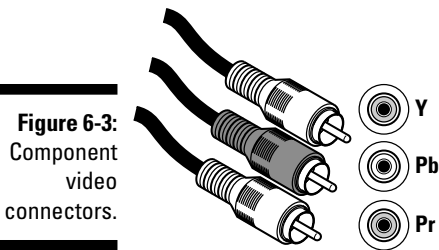

Figure 6-3:
- ✓ **Component video:** The majority of DVD players and most new televisions have component connections, usually in addition to composite and S-video connections. (You also find component video connections on some digital TV receivers — it's one of the most common ways of carrying HDTV signals to an HDTV.) Component video breaks down the video signal into three parts, each carried on a separate cable. This breakdown lets you avoid much of the internal circuitry in both your DVD player and your TV, so you get a better picture. At least that's what all of the videophiles we know tell us. You can see component video connectors in Figure 6-3.